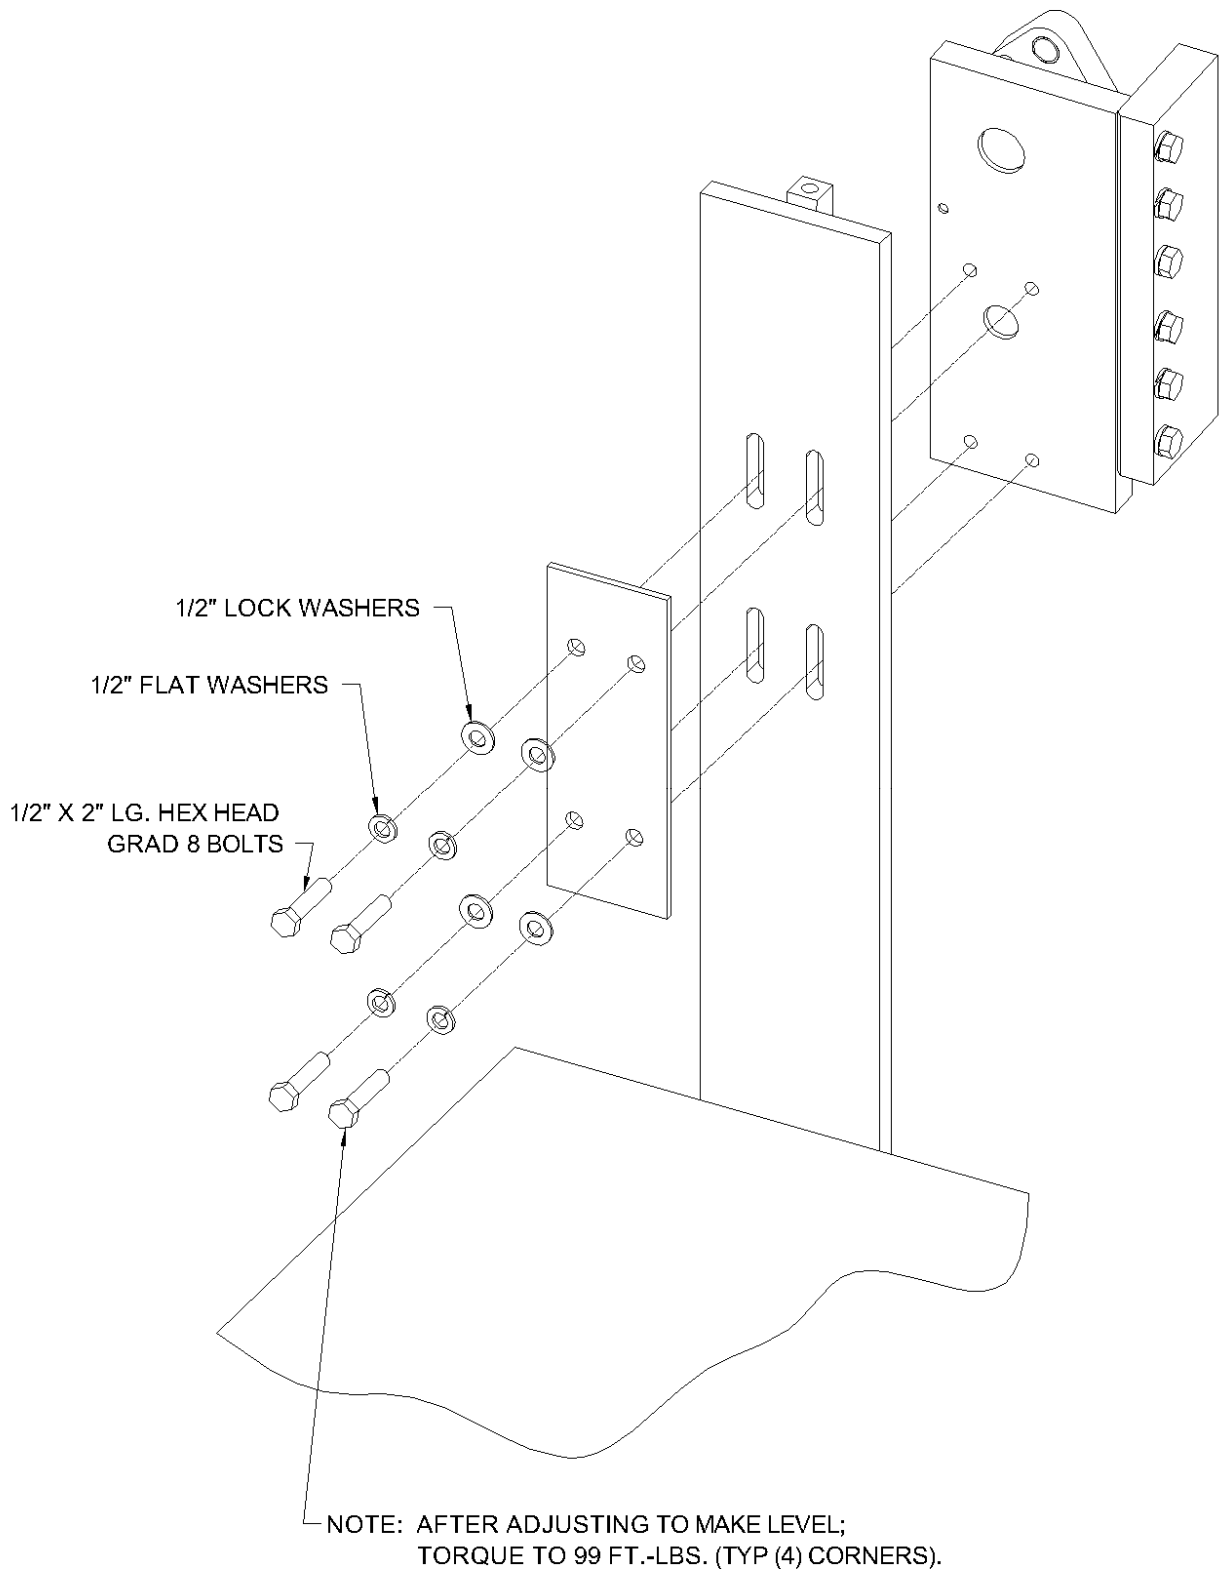

Figure 23 Wheel Block Mounting Detail
4. Slide the beams into position along side the carriage. The wheel guide assemblies should align with their respective mounting holes on the carriage upright bars. Bolt the wheel guide assemblies to the bars using the 1/2" x 2" long, Grade 8 bolts and the 1/2" washers that have been provided. Torque all these bolts to 99 ft. lbs. as shown in **Figure 23**.